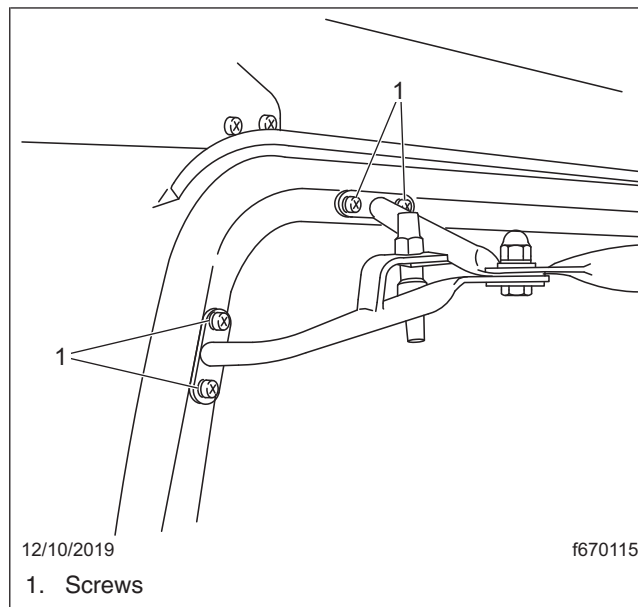

Fig. 7, Upper Mirror Arm Mounting Screw Locations
14. If equipped, remove the upper mirror arm mounting-bracket screws and swing the arms to the side. See Fig. 7. The lower arms do not need to be removed.
7. Attach the upper mirror mounting brackets to the cab door. Torque to 26 lbf-ft (35 N-m). See Fig. 7.